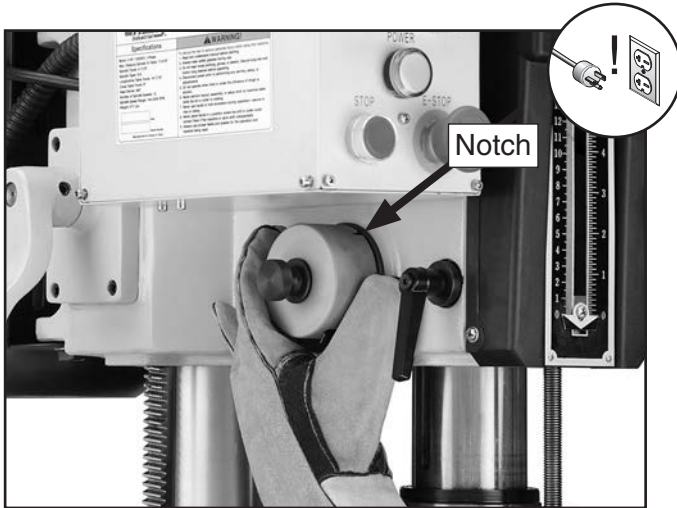

Figure 60. Adjusting spring tension.
- Rotate the cover to adjust the tension. Push the cover back in to engage the roll pin in one of the notches, as shown in **Figure 60**.